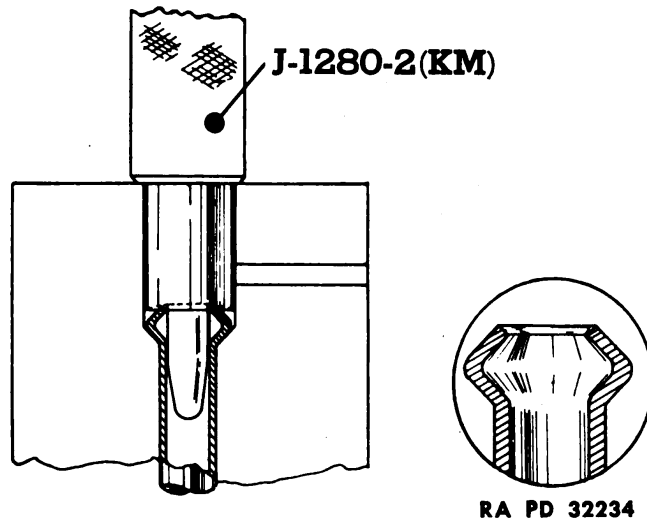

Figure 106—First Flare-forming Operation, Using Special Flaring Tool KM-J-1280 (41-T-3076-35)
d. **First Flare-forming Operation.** Using the flare-forming tool (41-T-3076-35) having the concave die, insert the forming tool in the die and strike firm blows, using a 1-pound hammer, until the shoulder of the tool contacts the top of the die. The cross-section drawing (fig. 106) shows the first step in forming the double-flap flare.